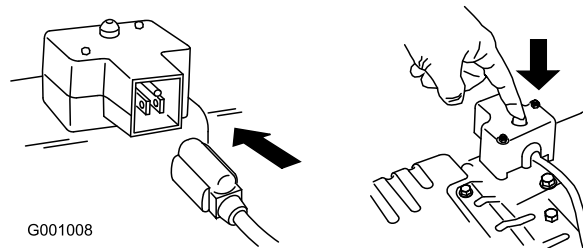

Figure 27
7. Start the snowthrower using the recoil starter or the electric starter (Figure 27).